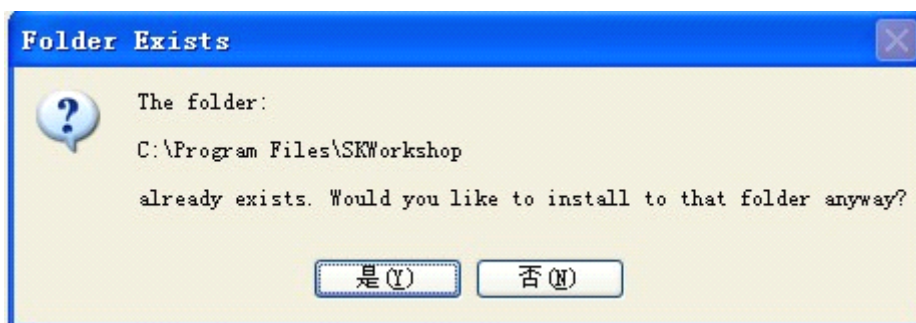
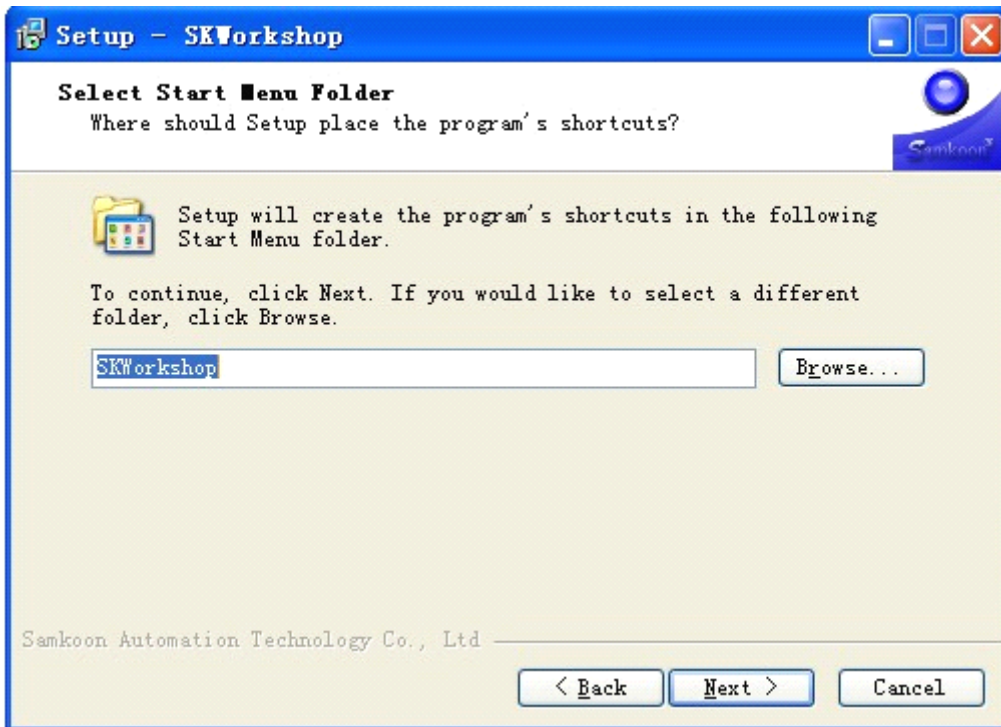

Figure 2-6: A prompt dialog
Figure 2-7: Installation folder selection dialog
If you have installed SKWorkshop4.0.0 before, a dialog as shown in Figure 2-6 will pop up:
- After clicking Yes in the dialog as shown in Figure 2-6, a dialog will appear to allow you to choose the installation folder. You may choose the default folder or other folders. Then, click Next, as shown in Figure 2-7.